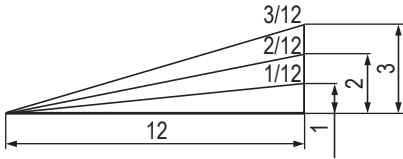

Fig. 40
- (7) The gradient, which is the ratio of the height to the base of the triangular section to be removed, may be used for setting the miter scale instead of the cutting angle, if desired (see Fig. 40).